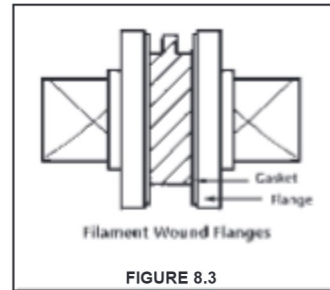

FIGURE 8.3
- 1) For unlined lug and wafer valves without integral seals, use filament wound flanges with no back-up rings or molded flanges with metal back-up rings. (See Fig. 8.3, 8.4, and 8.5)